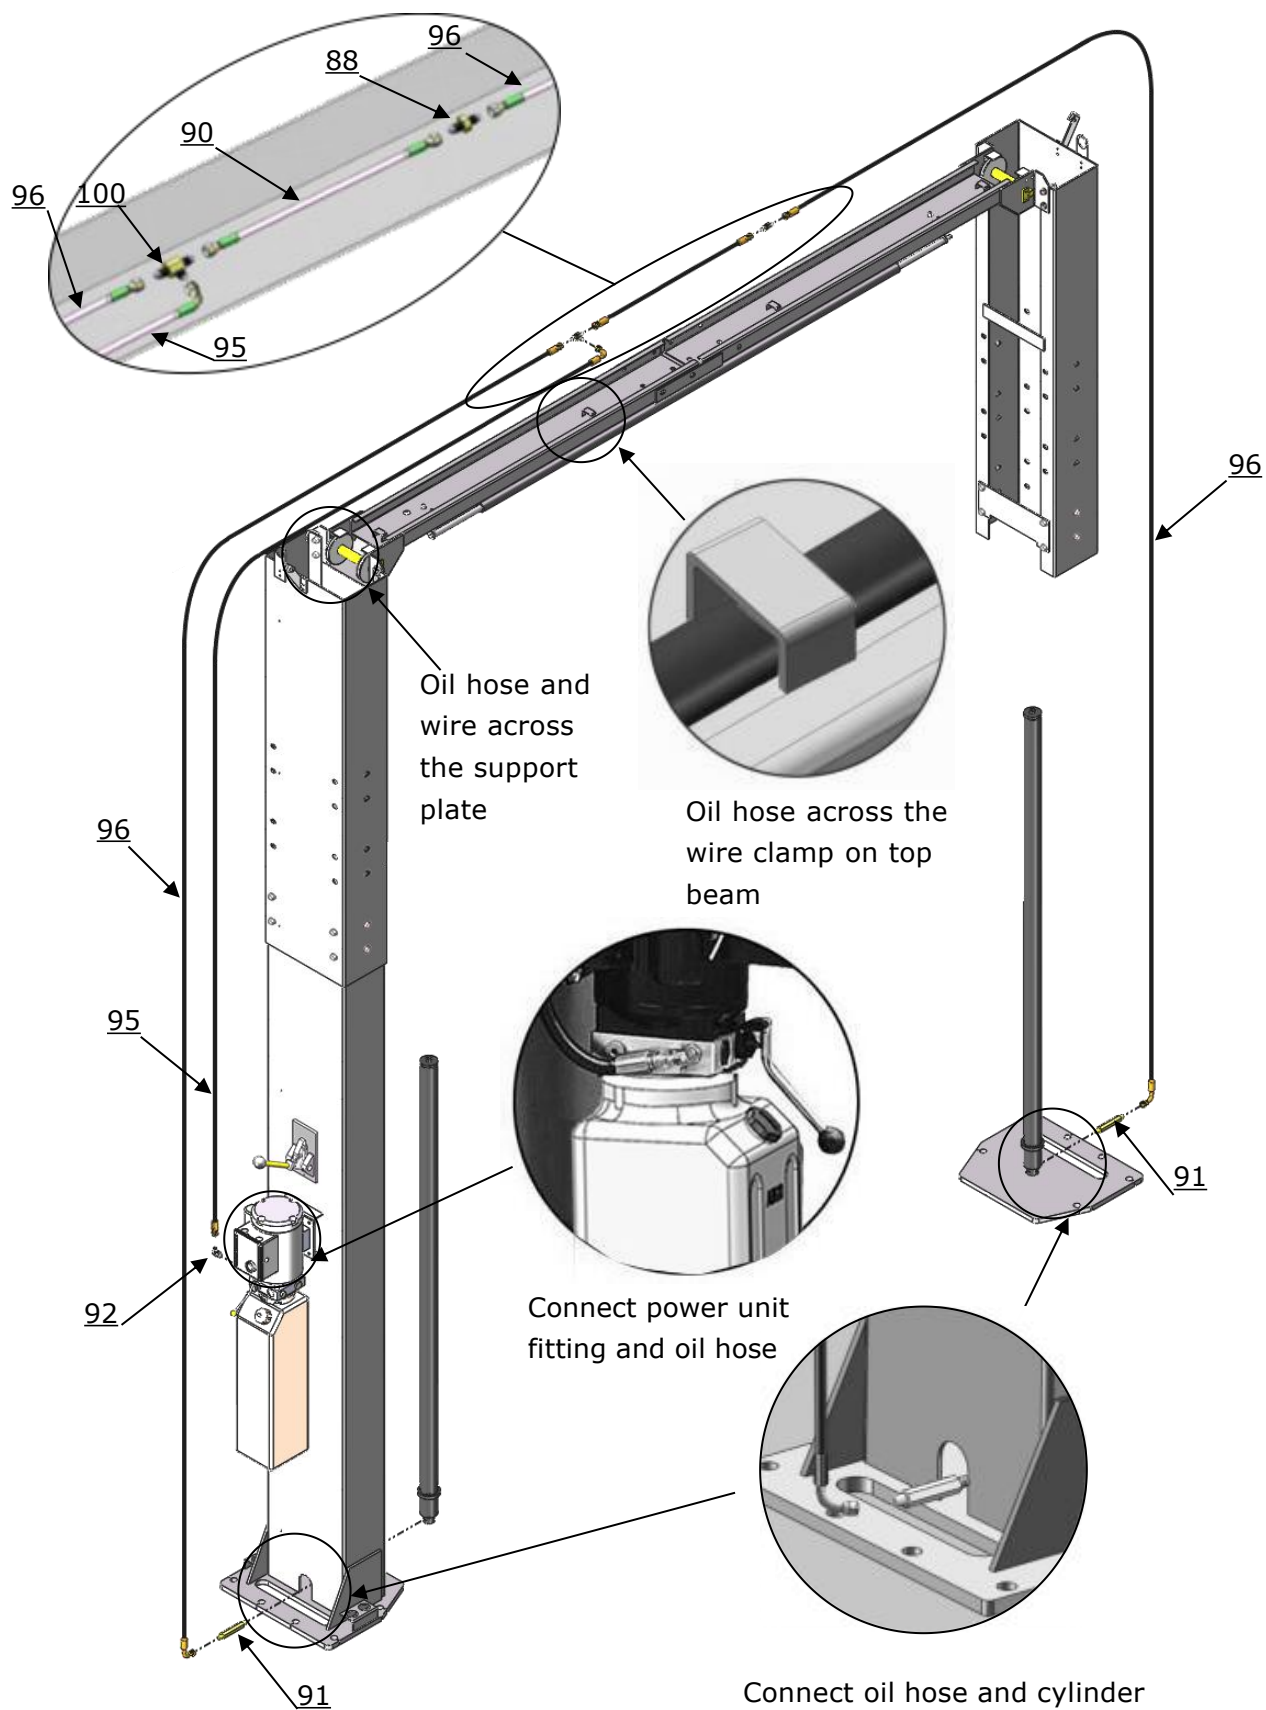

Fig.33
1. Oil hose installation of high setting.(Fig.33)